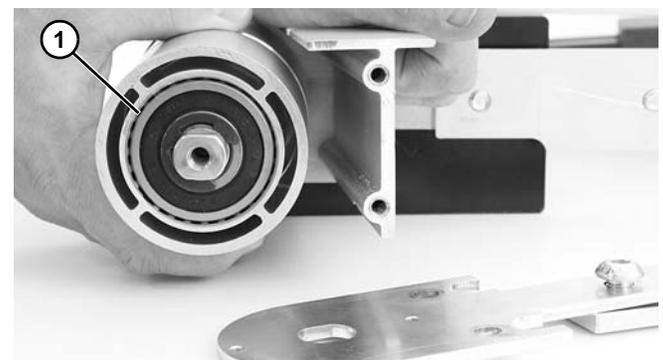

Figure 75
5. Slide the idler pulley assembly (Figure 75, item 1) out of the bearing plate on the opposite side.